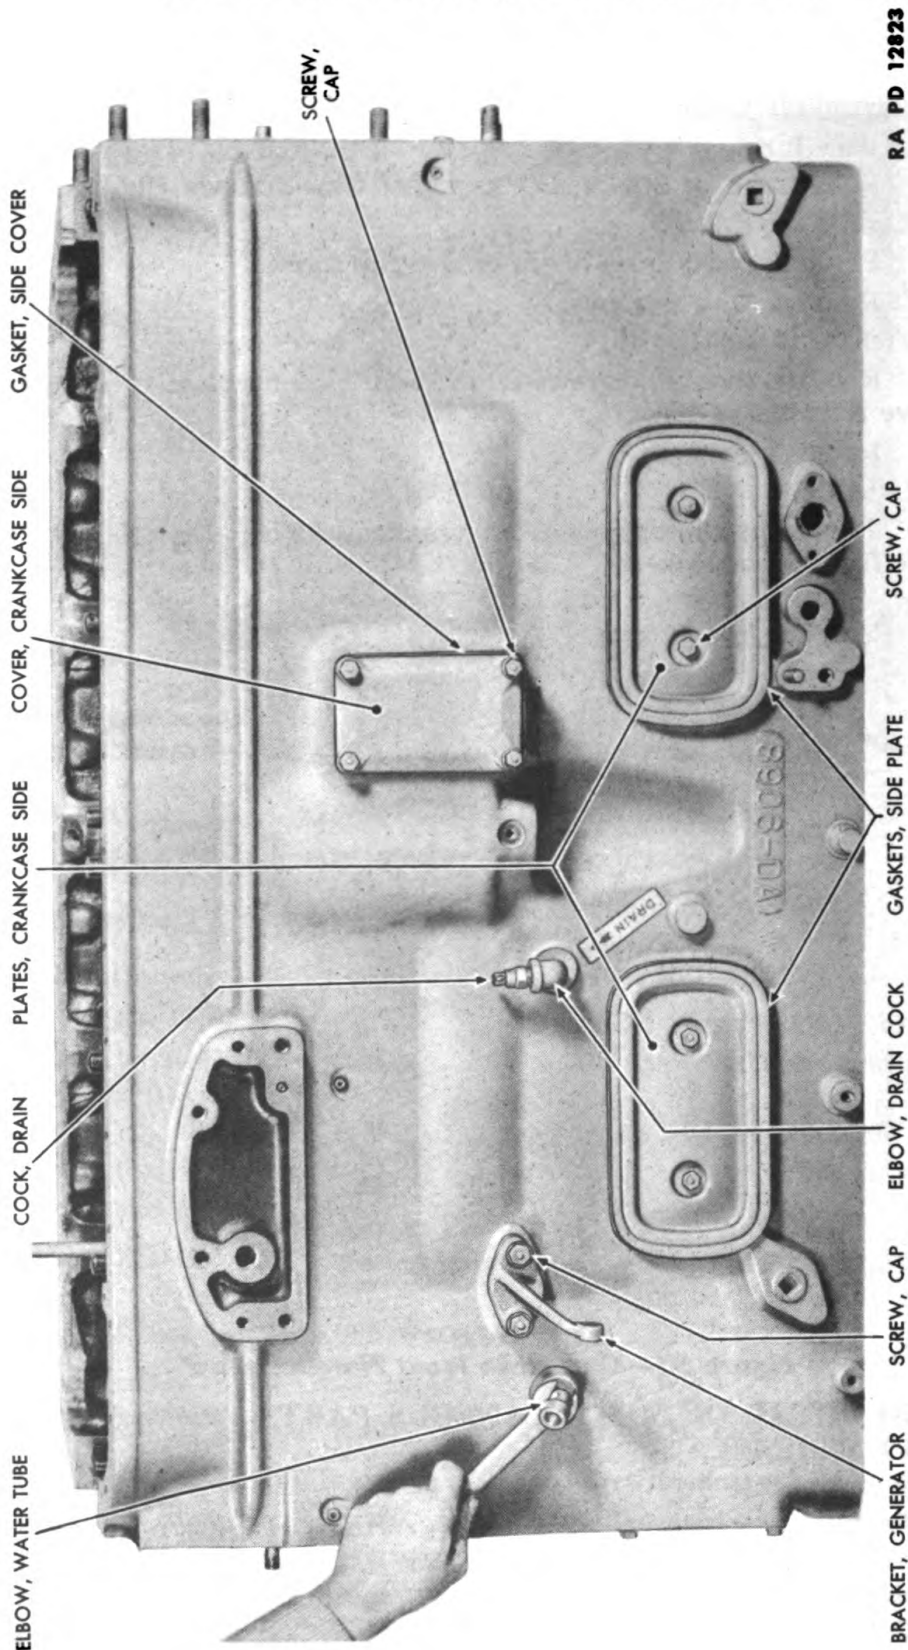

Figure 56—Water Outlet Elbow Removal
- (1) REMOVE WATER TUBE ELBOW (fig. 56).